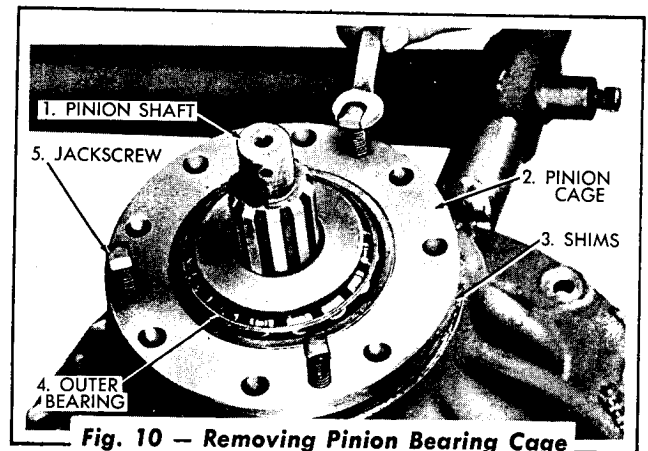

Fig. 10 - Removing Pinion Bearing Cage Assembly
4. Remove the capscrews (Fig. 10) securing the bearing cover and the seal assembly to the pinion cage assembly.
5. Install jackscrews in the holes provided (Fig. 10) and remove the pinion bearing cage assembly.
6. Measure the thickness of the shims used under the pinion bearing cage assembly (Fig. 10) and wire the shim pack together to facilitate adjustment on reassembly.